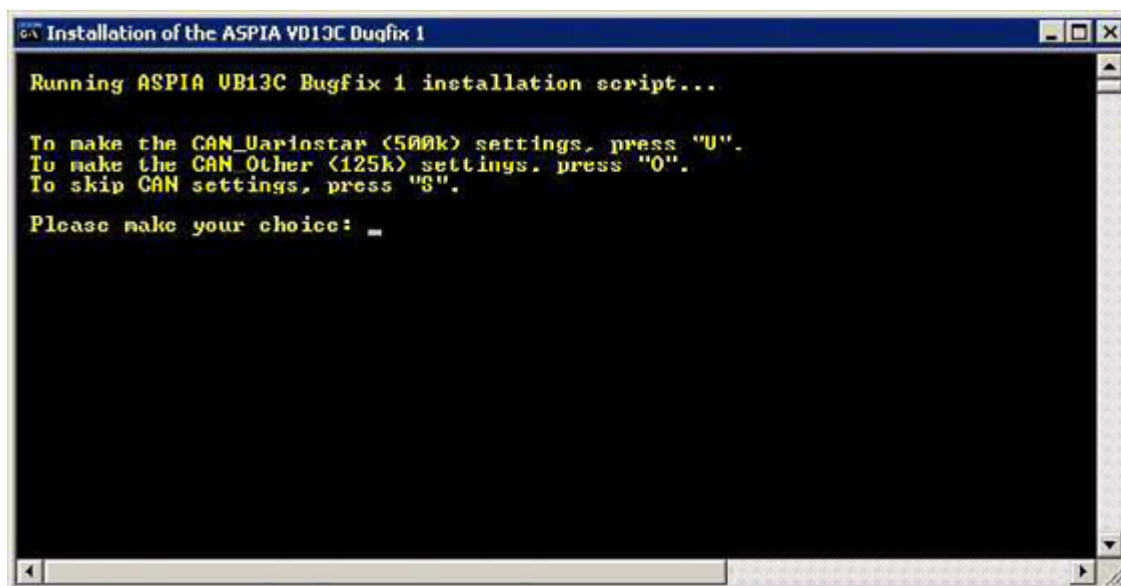

Fig. 17: CAN_Variostar_other
5. Enter the correct CAN-settings when “Please make your choice” appears in the window (Fig. 17 / p. 29).